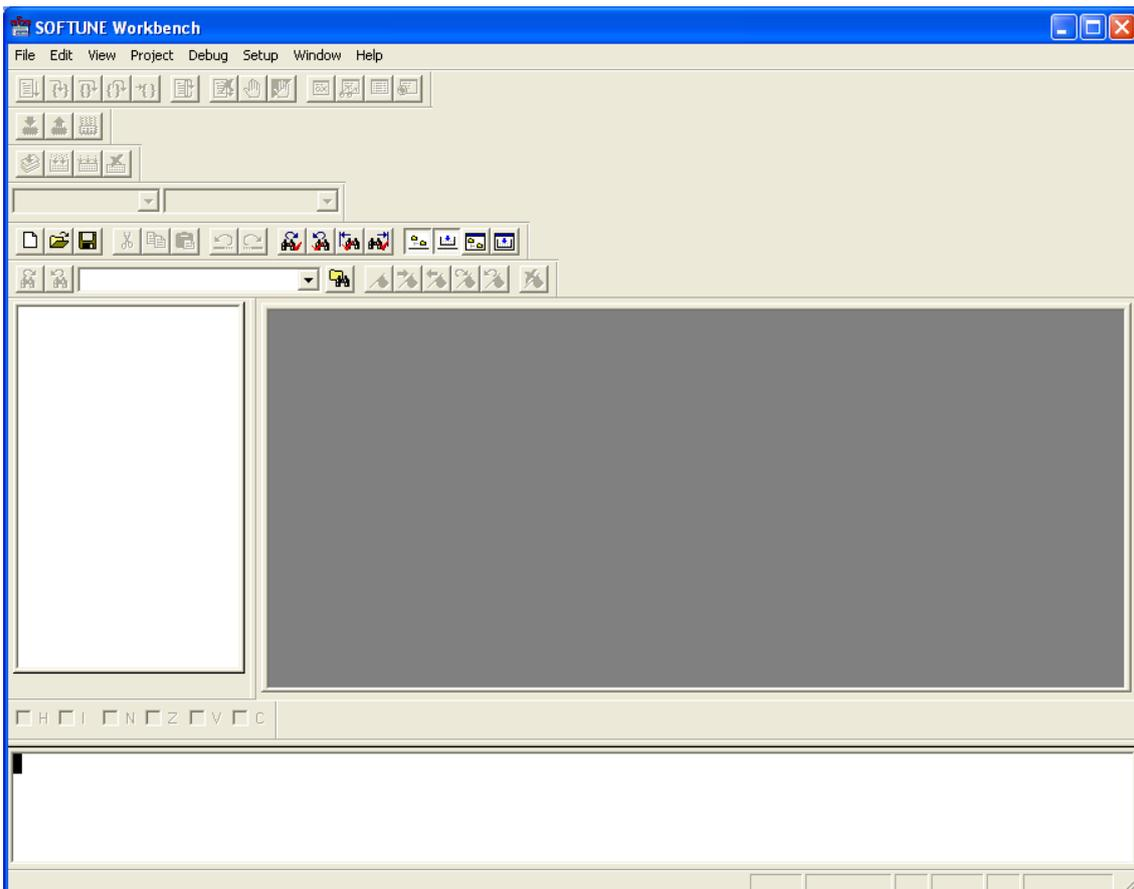

Figure 2-1 SOFTUNE Workbench start window
In Windows, click the “Start” → “All Programs (P)”, “Softune V3”, → “FFMC-8L Family Softune Workbench” to activate SOFTUNE as shown in “Figure 2-1 SOFTUNE Workbench start window”.